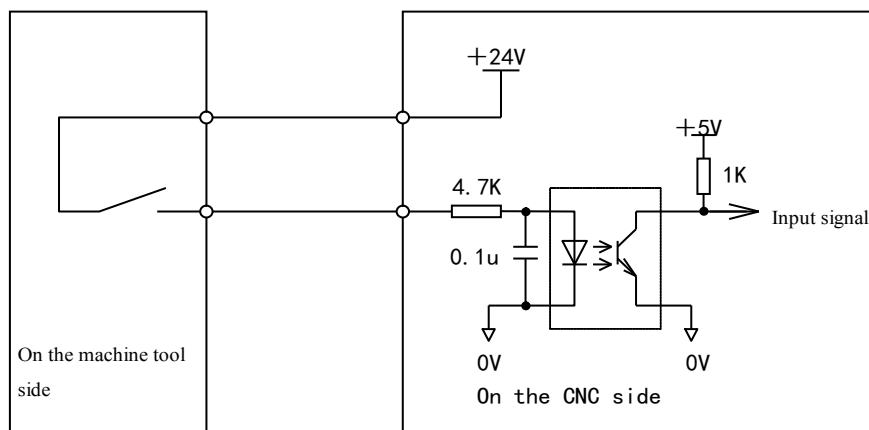

Figure 3-2-1
- b) The signal loop for this type of signal is as shown in Figure 3-2-1